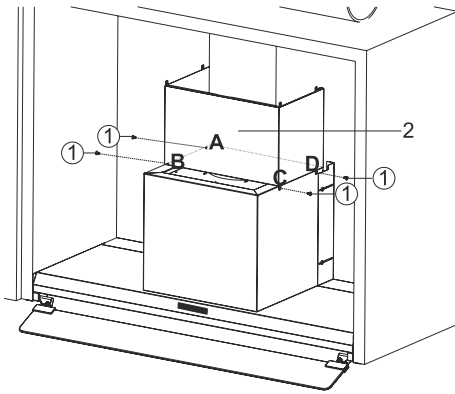

Fig. 15
5. ➔ Place the supplied sheet metal flues on the product (Fig. 15).
Using the 4 connection screws through the A, B, C, D points to the appliance body (Fig. 15).